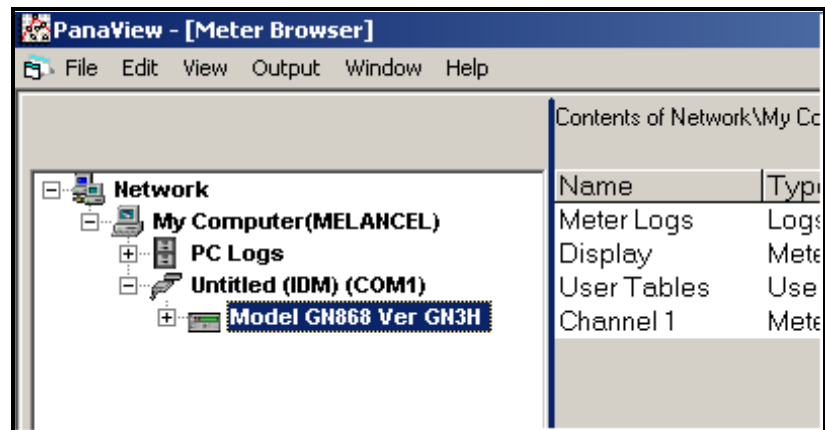

Figure 6: The Updated Network Tree
If the initialization is successful, the Meter Browser shows a listing similar to Figure 6 below.
1. Highlight the meter (as shown in Figure 6 on page 6).